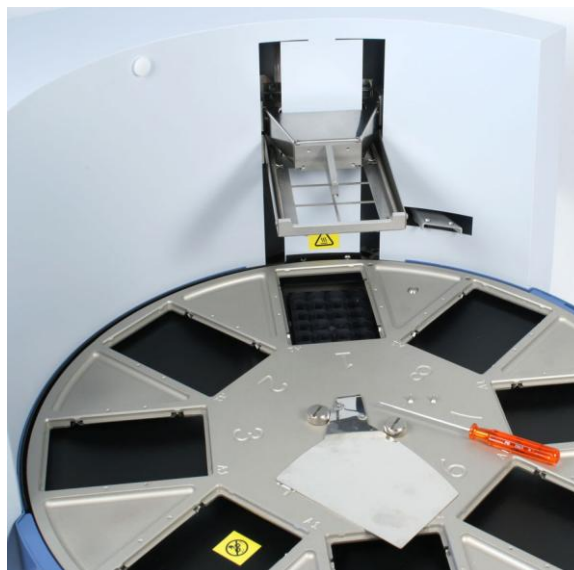

Figure 8. Shield plate prior to fitting
2. The shield plate has to be installed prior to use of the instrument. Use a hexagonal screwdriver (Allen key) to fasten the two screws (Figure 8).